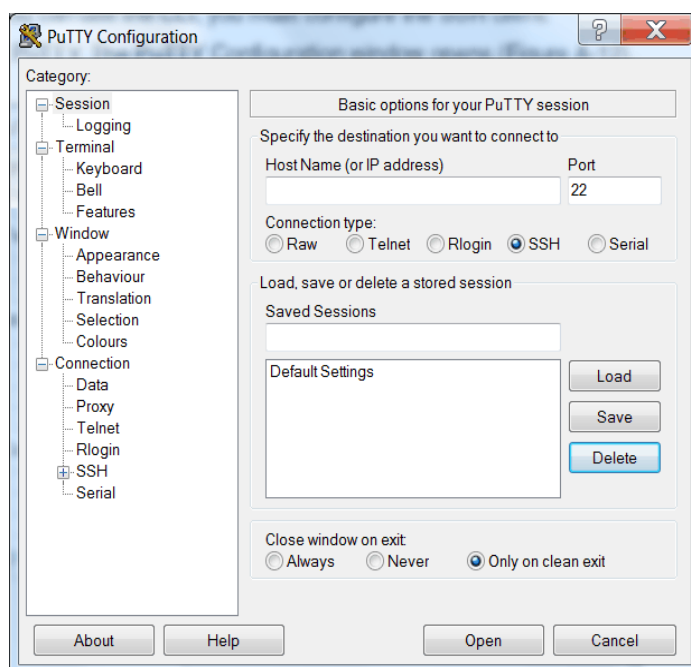

Figure A-12 PuTTY
1. Start PuTTY. The PuTTY Configuration window opens (Figure A-12).